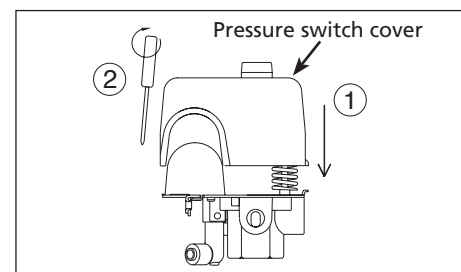

Figure 5
5. Install the switch cover on the switch body (See Figure 5).